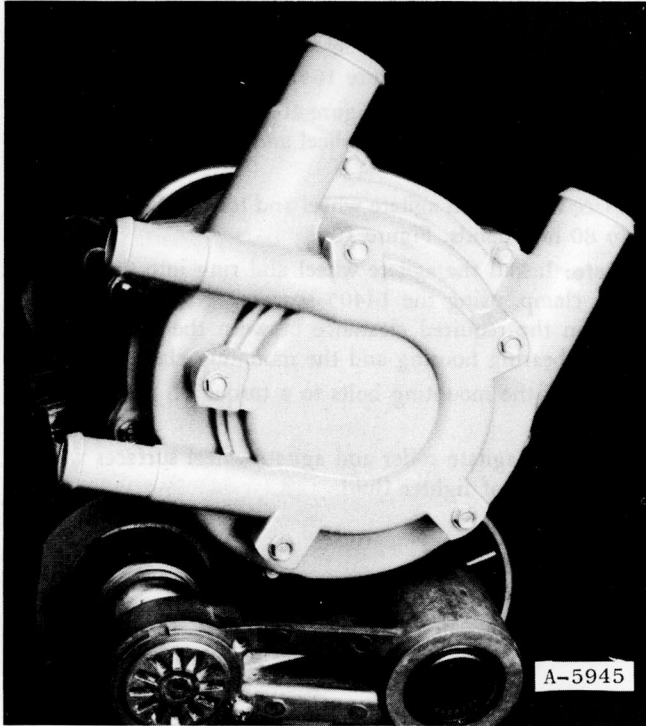

Figure 107
2. Remove the 5 screws that hold the recirculate pump cover to upper pump housing, Figure 107.